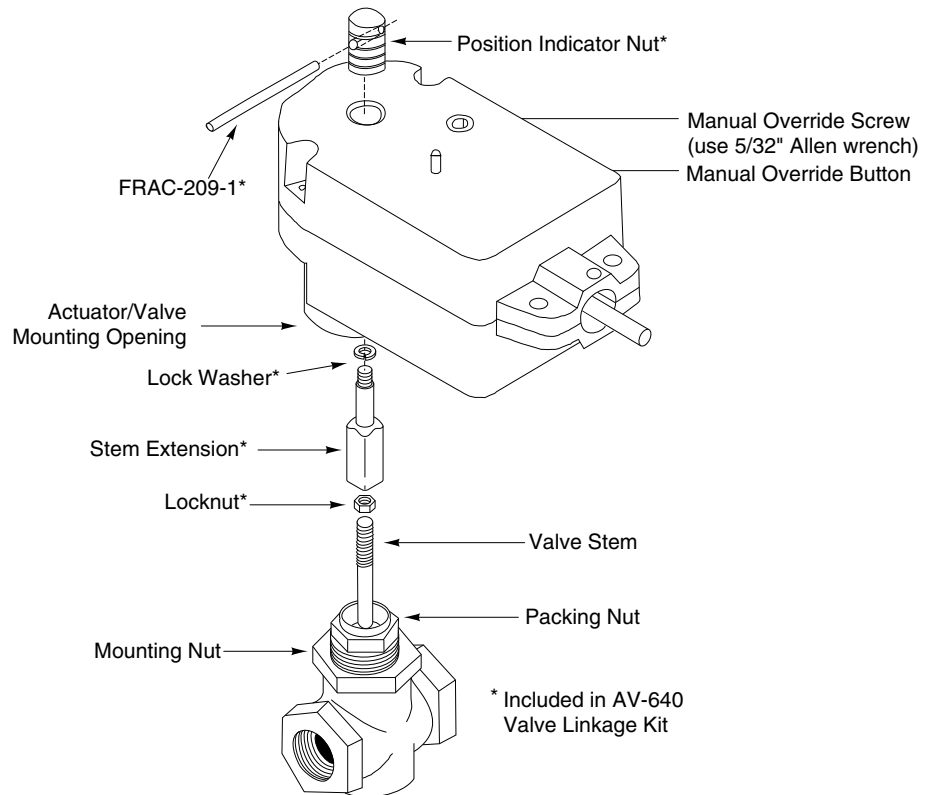

Figure-2 MF-221xx Series Actuator Valve Assembly with Obsolete AV-640 Linkage.
3. Unscrew the position indicator nut on the top of the actuator and remove it. Insert FRAC-209-1 pin through the hole in the position indicator nut and loosen by hand. Refer to Figure-2 for part identification.